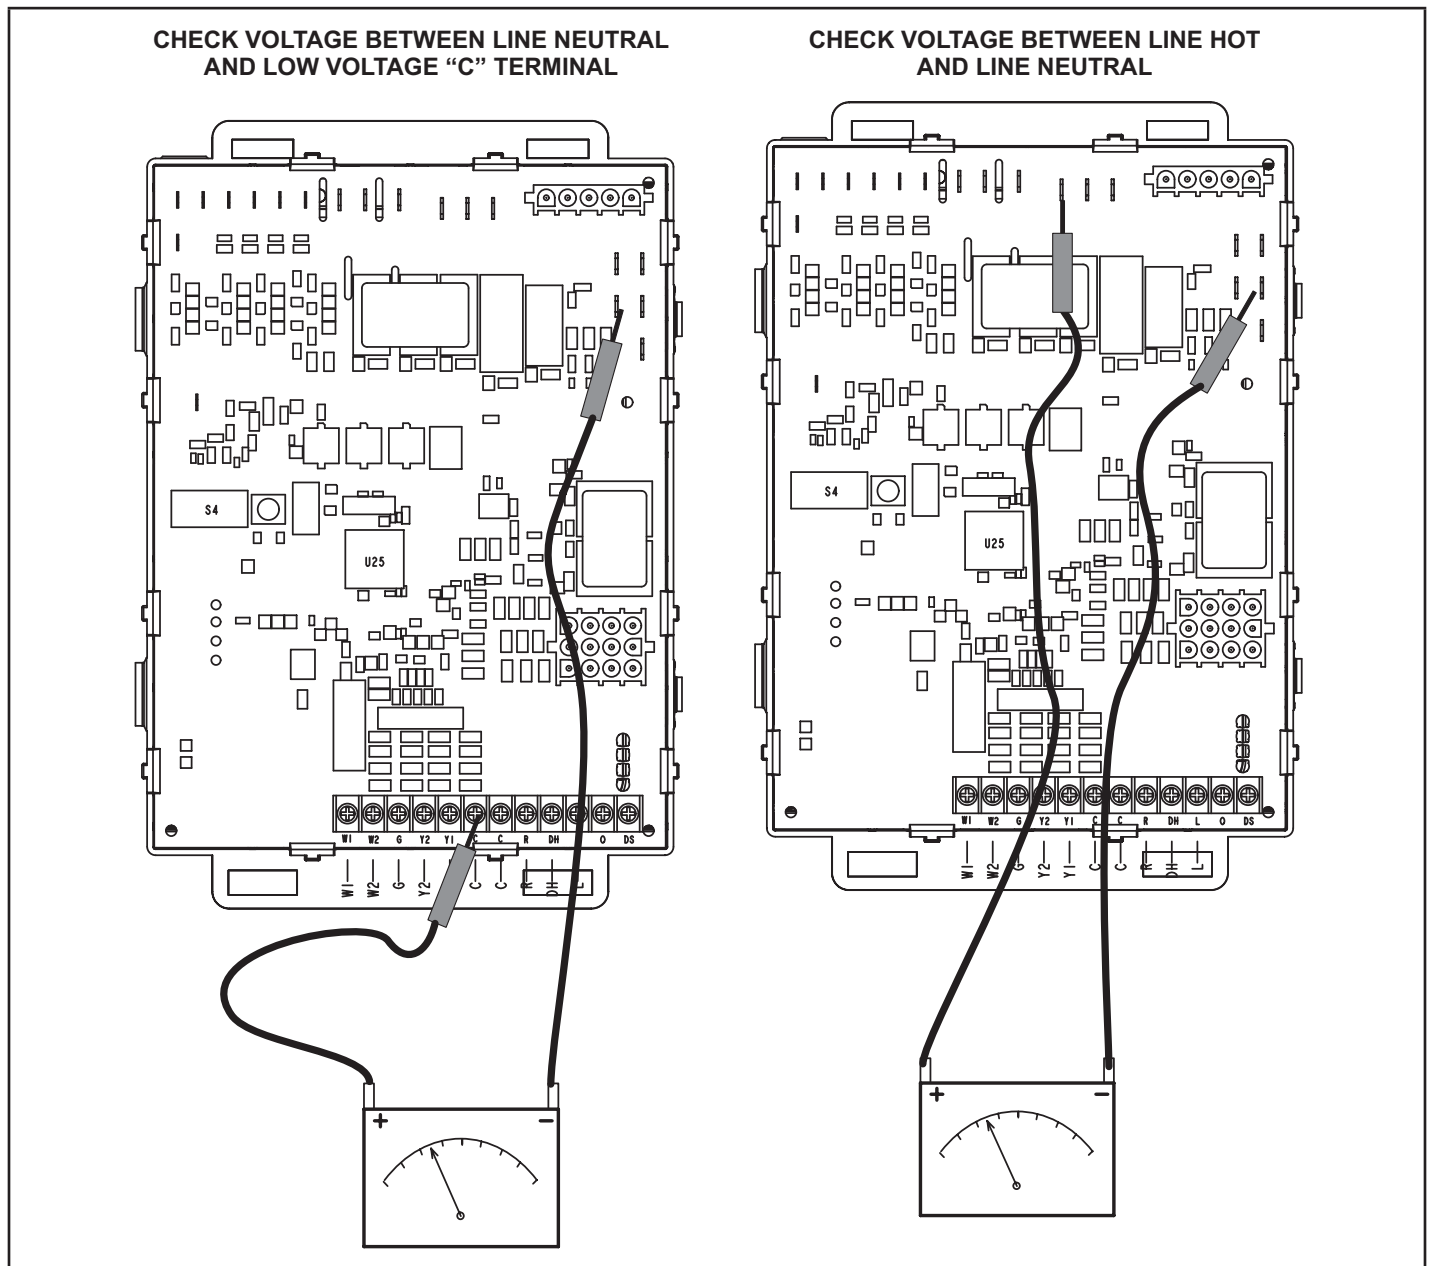

FIGURE 54
- 1 - Measure the AC voltage between Line Neutral (spade terminals) and "C" terminal (low voltage terminal block) on the integrated control. See FIGURE 54. A wide variation in the voltage between Line Neutral and "C" as a function of load indicates a poor or partial ground. Compare the readings to the table below. If the readings exceed the maximum shown in TABLE 25, make repairs before operating the furnace.
- 2 - In addition, measure the AC voltage from Line Hot to Line Neutral (spade terminals) on the integrated control. See FIGURE 54. This voltage should be in the range of 97 to 132 Vac.